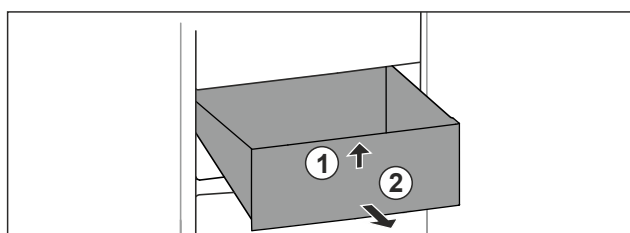

Fig. 64
- Lift up drawer at the front. Fig. 64 (1).
- Remove drawer to the front. Fig. 64 (2).